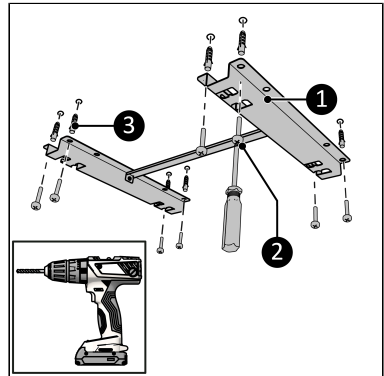

Figure 16.
4. Place the bracket against the ceiling and mark the eight holes (Figure 16).
6. Place wall plugs (Figure 16, pos. 3).
7. Screw and tighten the bracket (Figure 16, pos. 1) to the ceiling with eight large screws using a Phillips screwdriver (Figure 16, pos. 2).